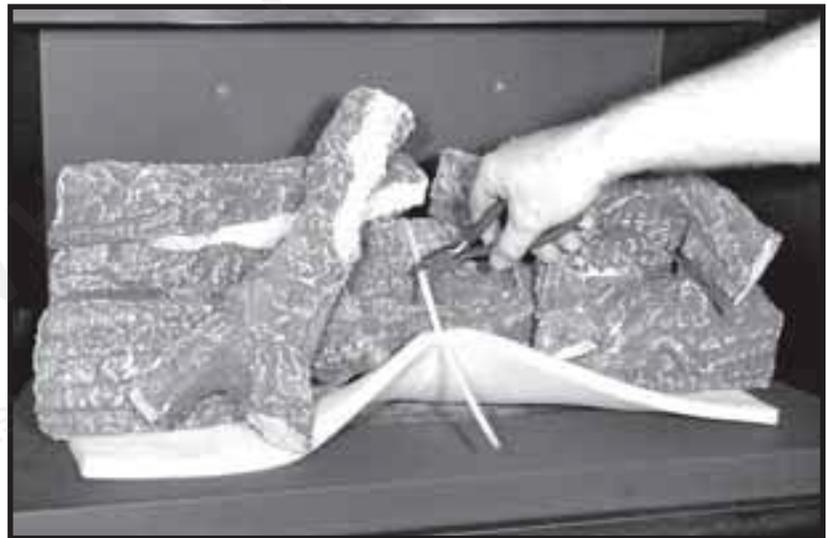

Figure 41
2. Carefully cut the cable tie holding the log assembly in place and discard the tie. Do not leave any part of the tie in the fireplace (see Figure 41).